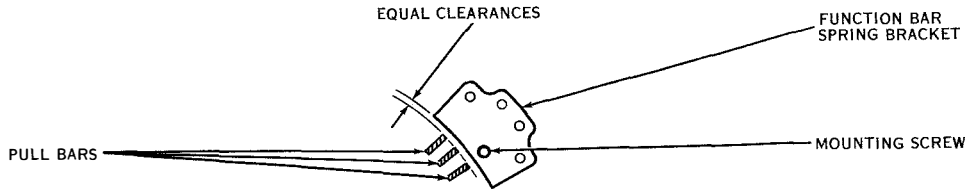

Figure 7-38. Function Bar Spring Bracket
(27) **FUNCTION BAR SPRING BRACKETS.** (See figure 7-38.)—The pull bars supported by the function bar spring brackets should be free and without bind. There should be approximately equal clearance between the corresponding edges of the function bar spring brackets and the pull bars. To adjust, position both the right and left function bar spring brackets. Hold the brackets in place and tighten the mounting screws.